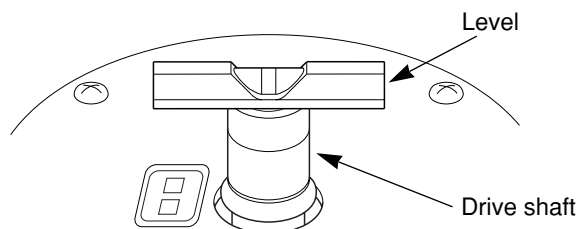

Fig. 5-3 Level placement
- ③ Turn on the power to ultracentrifuge, open the chamber door, and then turn off the power.
- ④ Place the level (supplied with instrument) on the drive shaft in the rotor chamber and turn the four leveling screws to adjust the ultracentrifuge (Fig. 5-3).